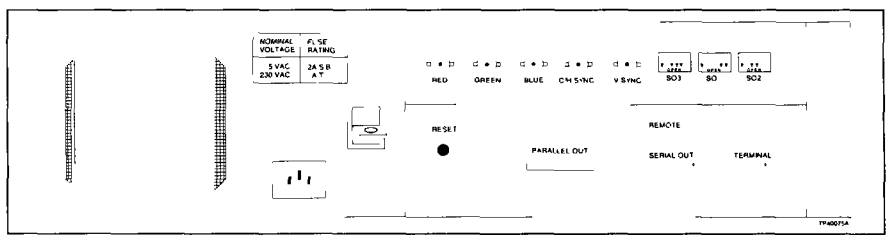

Figure 4 29 Back View of the Color Video Processor
- 2 Connect one end of the NKMC01 RGB cable assembly to the other side of the BNC tee adapters. Connect the other end of the NKMC01 cable to the red, green and blue inputs on the back of the video processor (Figure 4 29)